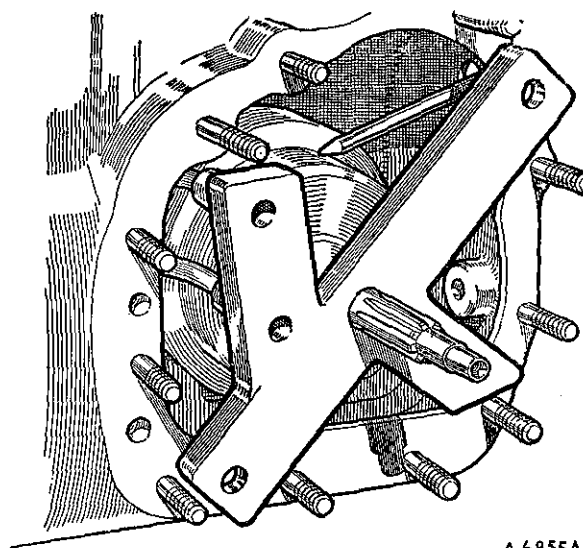

Fig. Fa.20
- (34) Refit the forward clutch apply pipe into its location in the transmission casing.
- (35) Refit the auxiliary pump pick-up strainer and pipe; secure the pipe with the dowel bolt (fitted with a copper sealing washer). Refit and tighten the strainer securing screw.
- (36) Fit a new joint washer to the transmission casing. Fit Service tool 18G 1094 and align the pipes (Fig. Fa.20) and remove the tool.